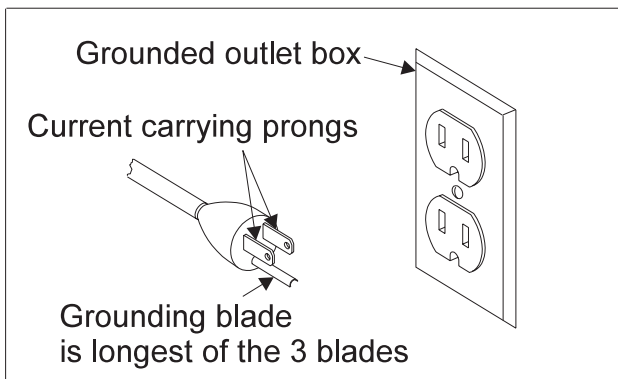

Figure 6. Grounded plug in grounded receptacle
- Check with a qualified electrician or service personnel if the grounding instructions are not completely understood, or if in doubt as to whether the tool is properly grounded. Use only 3-wire extension cords that have 3-prong grounding type plugs and 3-hole receptacles that accept the plug, as shown in Figure 6.
- This tool is intended for use on a circuit that has an outlet and a plug that looks like the one shown in Figure 6.